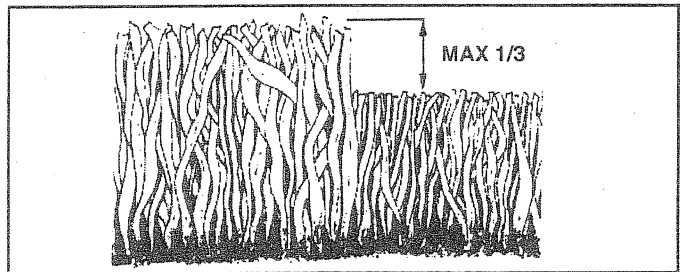

FIG. 15
- For best results, adjust the mower cutting height so that the mower cuts off only the top one-third of the grass blades (See Fig. 15). For extremely heavy mulching, reduce your width of cut and mow slowly.